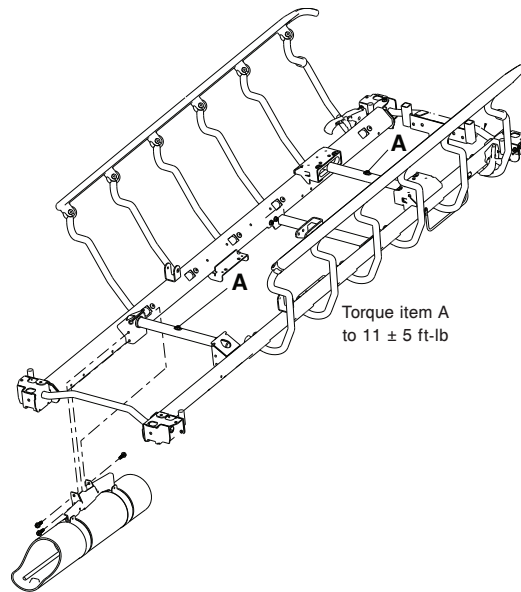

Figure 22 – Litter top removal
4. Using a 1/2" socket with a 3/8" drive extension and a 3/8" drive ratchet, remove the two hex washer head screws (A) (from the head and the foot end) that secure the jack support tubes to the jack shafts (Figure 22).